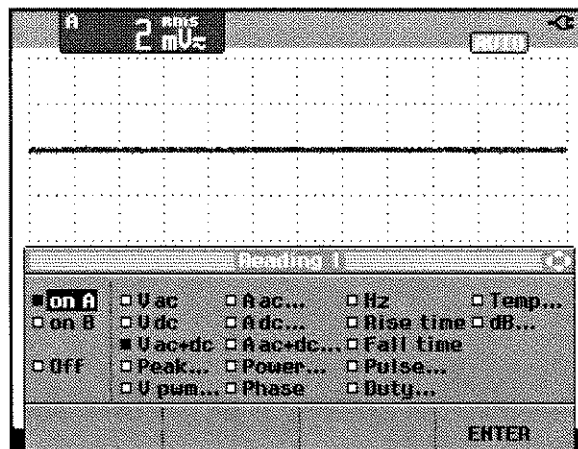

Figure 4-1. Menu item selection
- Open a menu, for example press , then press  (READING 1). The menu as showed in Figure 4-1 will be opened.